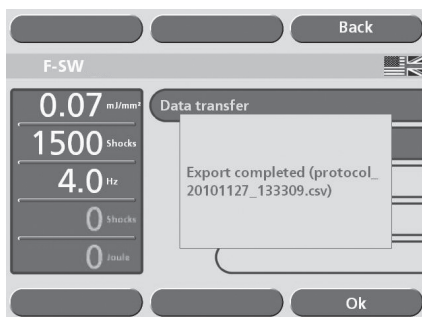

Fig.3-25 Data export complete
- Wait until the “Export completed” message appears on the display (Fig.3-25), then remove the memory stick.